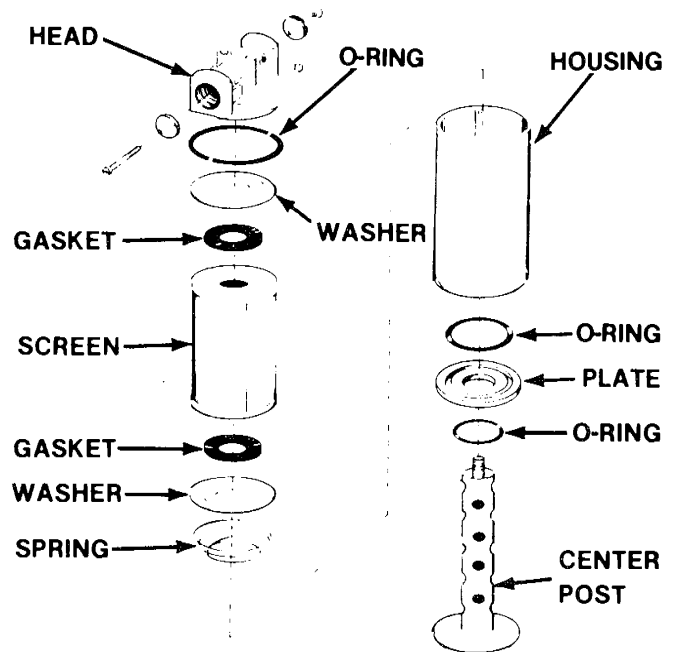

Figure 21. Screen Filter - Machines through PIN 6280344
- c. Install new seals and assemble the filter as shown in figure 21.